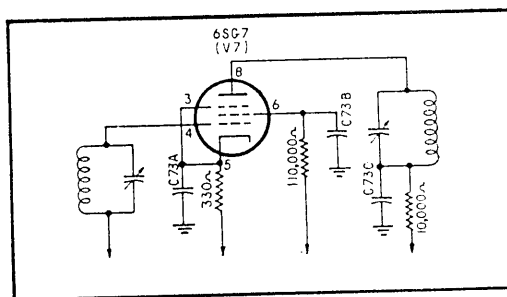

Fig. 2. The hopped-up 1st I.F. stage.
2. If additional i.f. gain is desired, the second 500 kc i.f. stage may be opened up a bit. It is biased back rather heavily. On-socket V7 replace R-30 (the 560 ohm cathode resistor) with a 330 ohm resistor of the same wattage. Replace R-32 (120,000 ohm plate resistor) with a 10,000 ohm resistor of the same wattage. Also, replace R-31 (screen resistor) with a 110,000 ohm resistor. These changes will give an appreciable increase in receiver gain with no danger of oscillation in the i.f. amplifier. See Fig. 2.